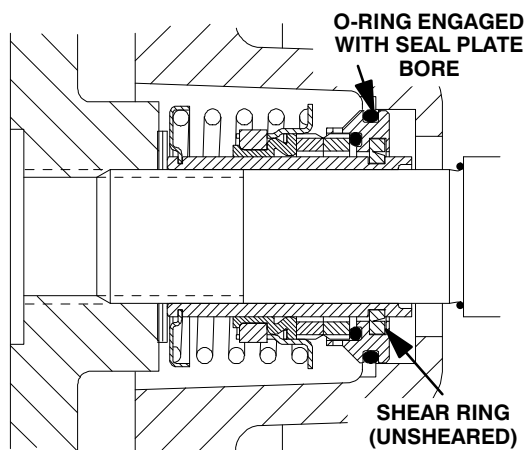

Figure 10. Seal Partially Installed
Clean and inspect the impeller as described in **Impeller Installation and Adjustment**. Install the full set of impeller shims (28) provided with the seal, and screw the impeller onto the shaft until it is seated against the seal (see Figure 10).